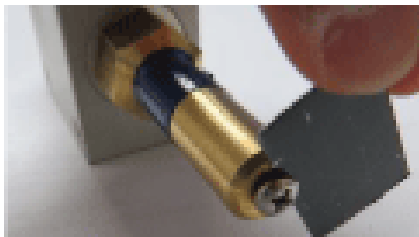

Figure 17: Insert the metal pressure simulator shim to the space between the screw and the pressure simulator for testing.
15. Slip the metal pressure simulator shim into the space between the screw and the pressure simulator (Figure 17). If the shim is able to slide through the gap, the ball bearing is seated properly.